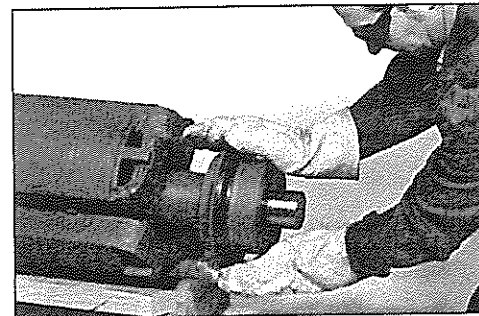

Figure 6-44
3. To insure proper fan location, mark the new hub in the same place as the old hub relative to the keyway. Install key in shaft. Heat the new hub in an oven to 500-600°F (260-316°C). Using suitable heat resistant gloves, slide the hub over the key in the shaft until it seats against the shaft shoulder (figure 6-44).